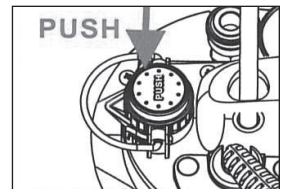

Figure 16
4. If the pressure is too high during operation, press the “PUSH” button to release pressure inside the unit (Figure 16).